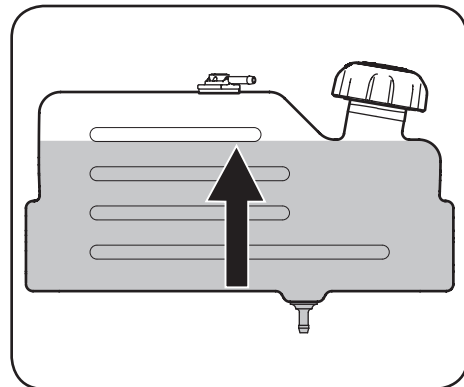

Figure 2-8
- Fill the fuel tank with gasoline. Use only clean, fresh (no more than 30 days old), unleaded gasoline. Fill tank to the base of the filler neck to allow space for fuel expansion. **DO NOT TOP OFF THE TANK WITH FUEL.** See Figure 2-8.